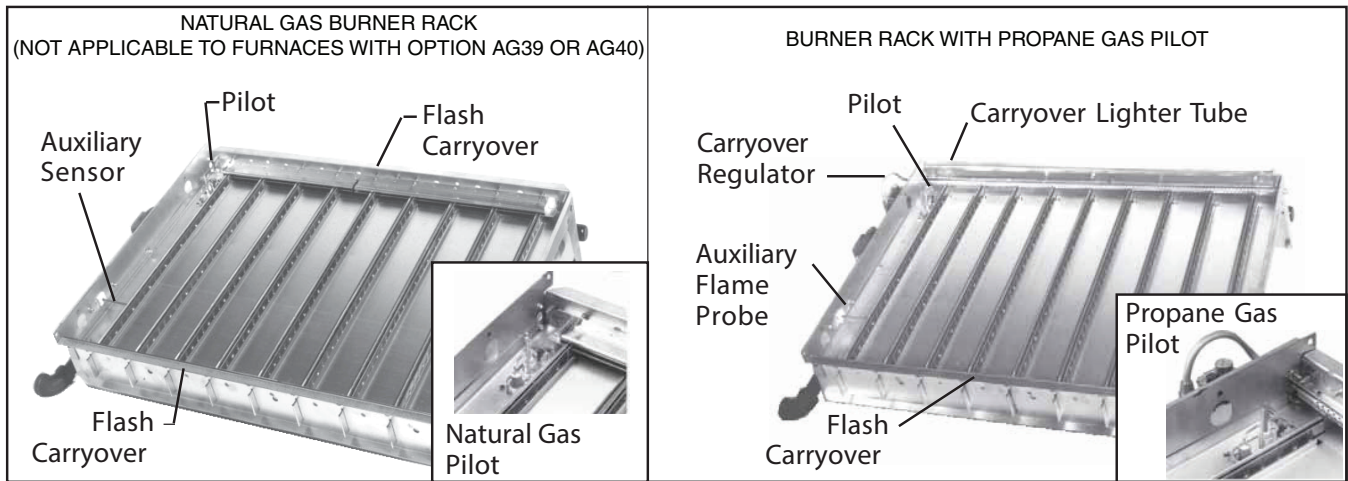

Figure 31. Typical Burner Rack
- Typical natural gas and propane gas burner racks are shown in Figure 31.